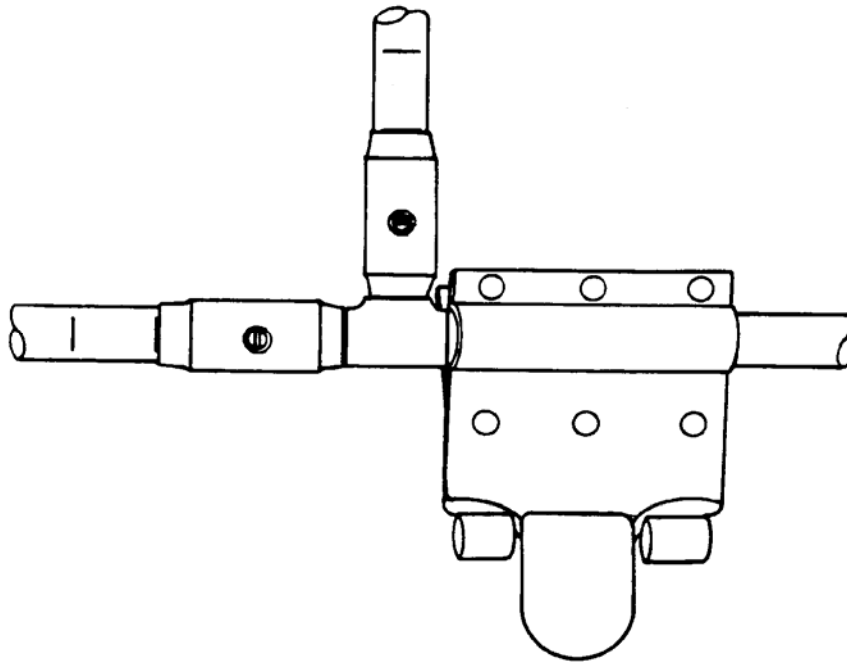

Figure 13. Application of Tube Chiller on Fitting Leg and Tube
l. Remove the test coupling from one fitting leg and apply the tube chiller to the fitting leg and tube until chilled (about 1 minute for 1/4 inch tube and 3 minutes for 1 inch tube). Leave remaining test couplings in position to maintain proper tube/fitting alignment (Figure 13).